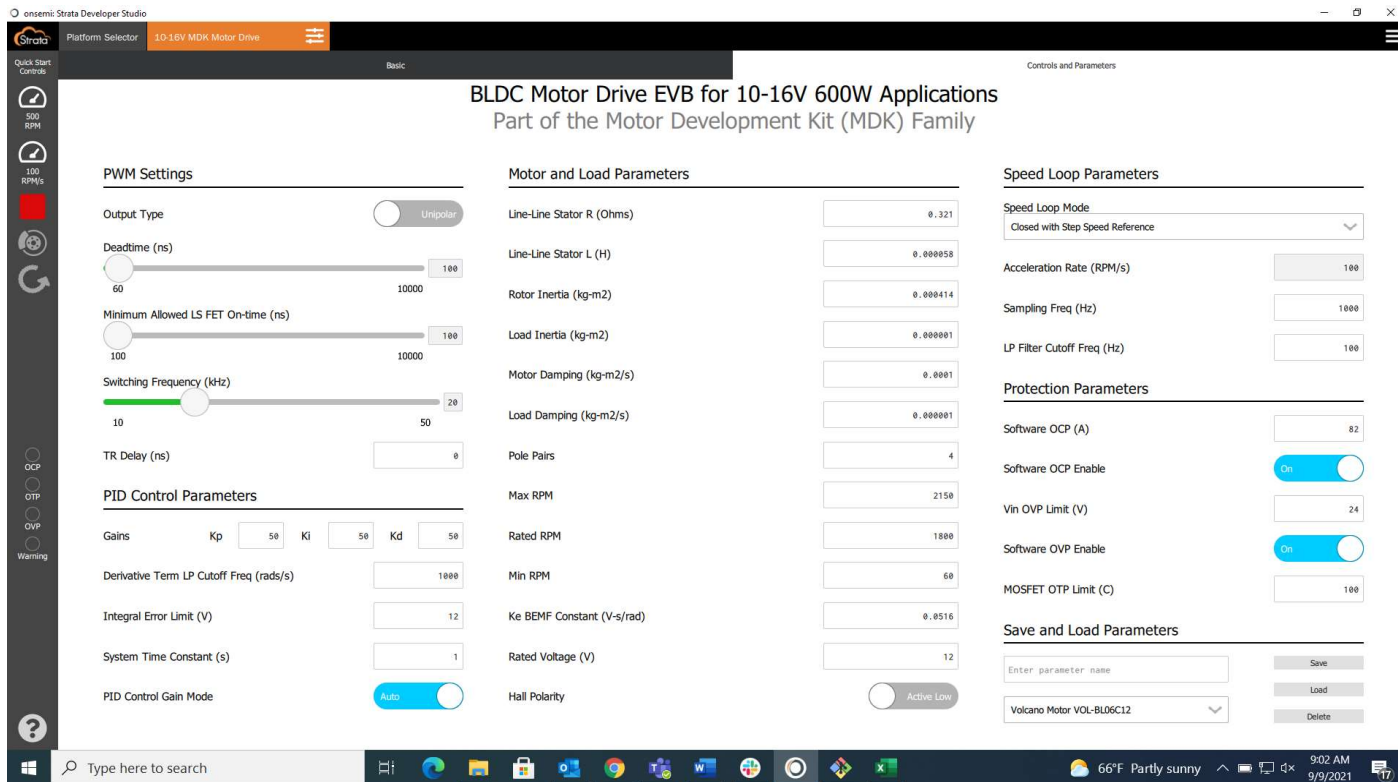

Figure 3 Advanced View
5. A Controls and Parameters tab is also available and is shown in Figure 3.